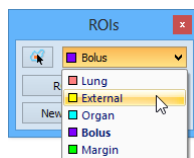

Figure 237 – Selecting the current ROI in TomoCon
- Select the ROI from the **ROIs** drop-down list in the **ROIs** tool in the tools panel (see Figure 237).